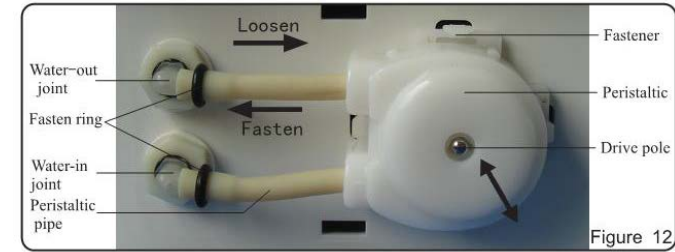

Figure 12
- c. Pull the two fasten ring out to the right, then pull the peristaltic pipe out to the right. (see figure 12)
- d. Pull the peristaltic out from the drive pole, and install the new peristaltic back to the same position.(see figure 12)
- e. Install the fasten rings onto the ends of pipes, then insert the pipes into water-in and water-out joints. Push the fasten rings to mid of water-in and water-out joints. (see figure12)